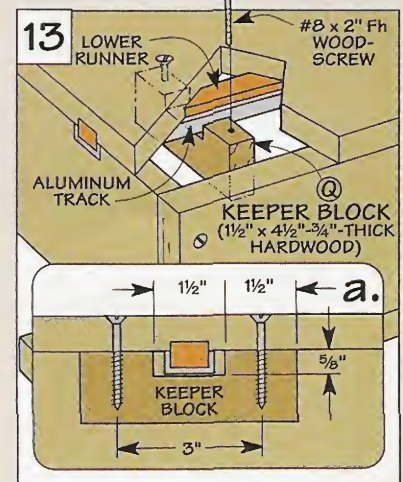

Fig. 13: Assembly diagram of the upper table.
KEEPER BLOCKS. With the table in place, I added two hardwood *keeper blocks* (Q), see Figs. 13 and 13a. These blocks prevent the table from lifting up when working with long pieces that hang over the base. To do this, the blocks are notched to fit around the track and screwed to the table.